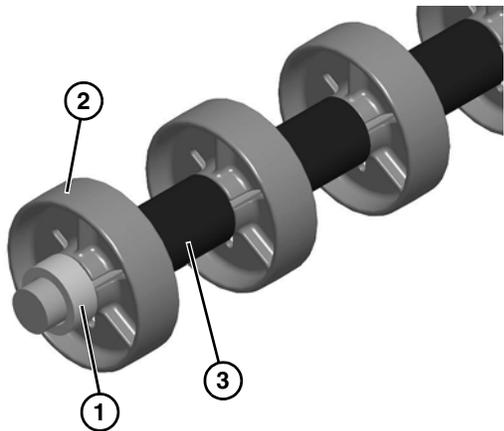

Figure 64
- Remove spacer (**Figure 64, item 1**), rollers (**Figure 64, item 2**) and tube spacers (**Figure 64, item 3**) from shaft.